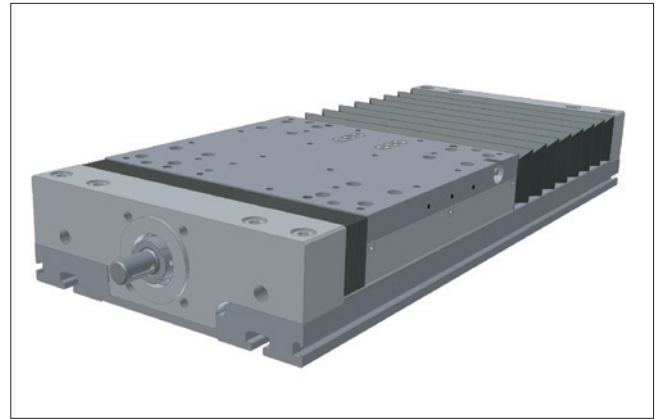

Figure 5.10 \_\_ AXLT with bellows
- Optimal protection of the inside placed guiding and drive elements as well as the inductive switches by the optional use of bellows (Figure 5.10)